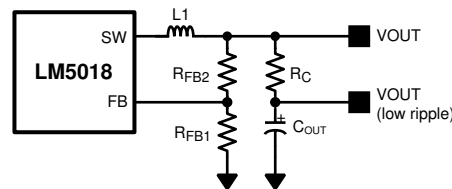

図 7-1. Low Ripple Output Configuration
This regulator regulates the output voltage based on ripple voltage at the feedback input, requiring a minimum amount of ESR for the output capacitor ( $C_{OUT}$ ). A minimum of 25 mV of ripple voltage at the feedback pin (FB) is required for the LM5018. In cases where the capacitor ESR is too small, additional series resistance can be required ( $R_C$  in 図 7-1).
For applications where lower output voltage ripple is required, the output can be taken directly from a low ESR output capacitor, as shown in 図 7-1. However,  $R_C$  slightly degrades the load regulation.